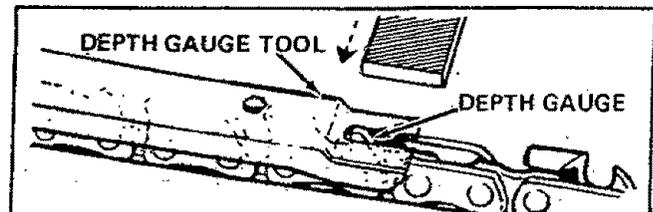

Figure 38
- Place depth gauge tool (Catalog No. 71-36557) over each cutter depth gauge. Figure 38.
- Maintain rounded front corner of depth gauge with a flat file. Figure 38 & 39.